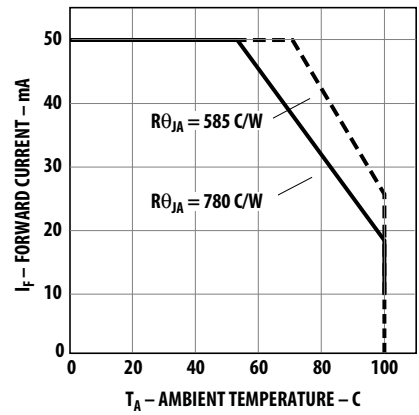

Figure 4. Maximum forward current vs. ambient temperature. Derating based on $T_{JMAX} = 130^{\circ}\text{C}$.
1. Derate linearly as shown in Figure 4.